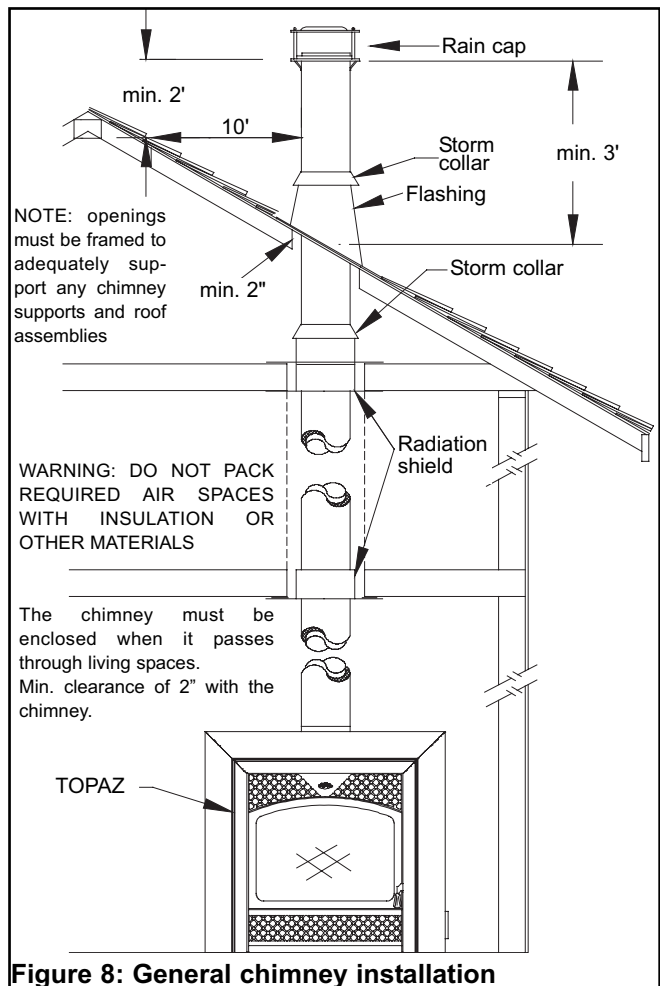

Figure 8: General chimney installation
2. From below, install a radiation shield in each floor through which the chimney passes. At the attic level, install a radiation shield and a storm collar as shown in (Figure 8).
**NOTE:** In **USA** if the chase is enclosed or flashed to the roof as shown in (Figures 8, 10 and 11), then the flashing must be vented.